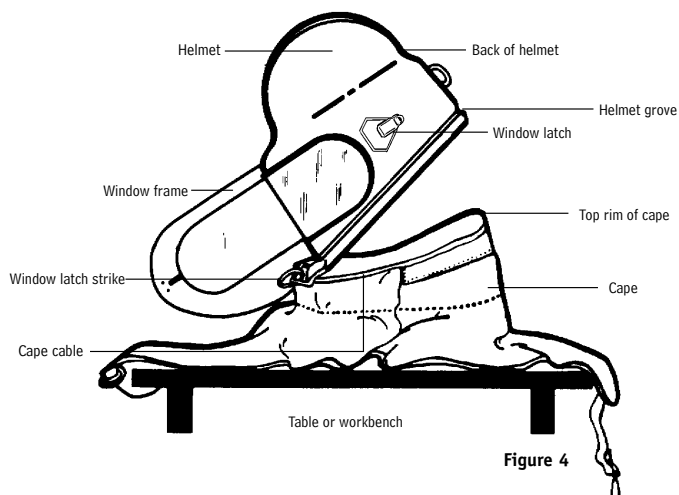

Figure 4
2. Remove cape from helmet by lifting up on clamp and disengaging cape from helmet groove (Figure 4).
1. Place cape on table or workbench. (Figure 4, page 11)
3. Line up the clamp on the cape with the front center of the helmet (Figure 4, page 11).